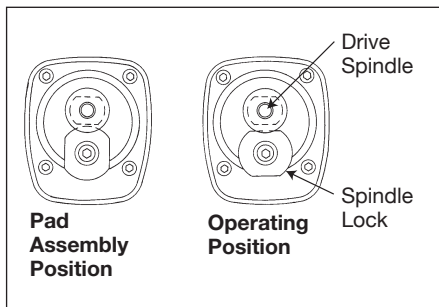

Figure 2 - Sanding pad assembly
2. Lock the drive spindle in place before attaching the sanding pad. Rotate the spindle lock until the spindle lock engages with the drive spindle and hand-tighten the sanding pad in a clockwise direction (See Figure 2).